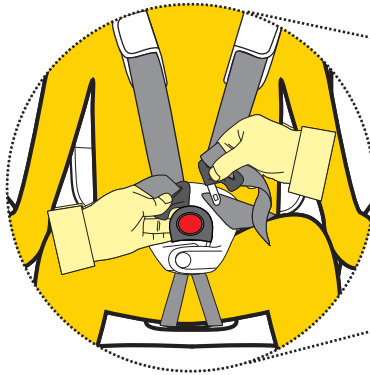

Figure 2
- Step 3:** Place the child in the restraint with legs either side of the buckle, place the harness over the shoulders and hips (refer Figure 2).